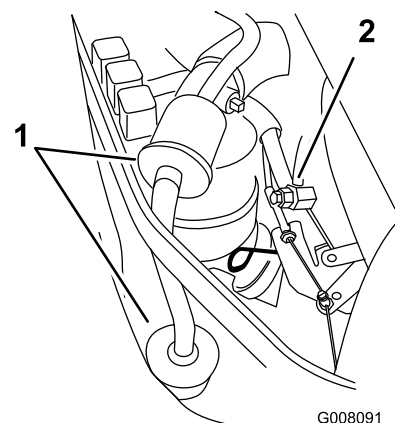

Figure 3
13. Remove the existing fuel hose from the engine and remove the existing fuel filters from the machine (Figure 3).